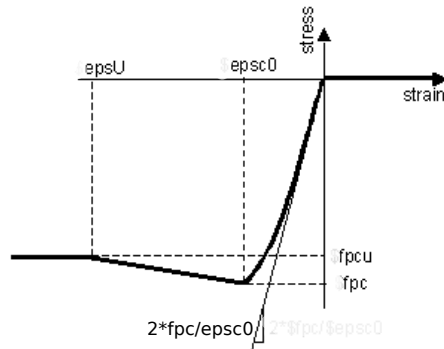

Figure 3.6: Concrete01: uniaxial Kent-Scott-Park concrete material. Stress-strain diagram
epsc0	concrete strain at maximum strength (see figure 3.6) (2)
fpcu	concrete crushing strength (see figure 3.6)
epscu	concrete strain at crushing strength (see figure 3.6)
(2): The initial slope for this model is  $2 * fpc / epsc0$  (see figure 3.6)